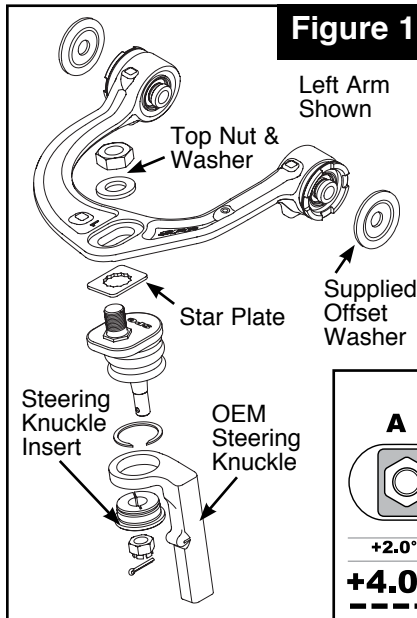

Figure 1
9. Press supplied steering knuckle insert into knuckle with flange on bottom, see **Figure 1**.